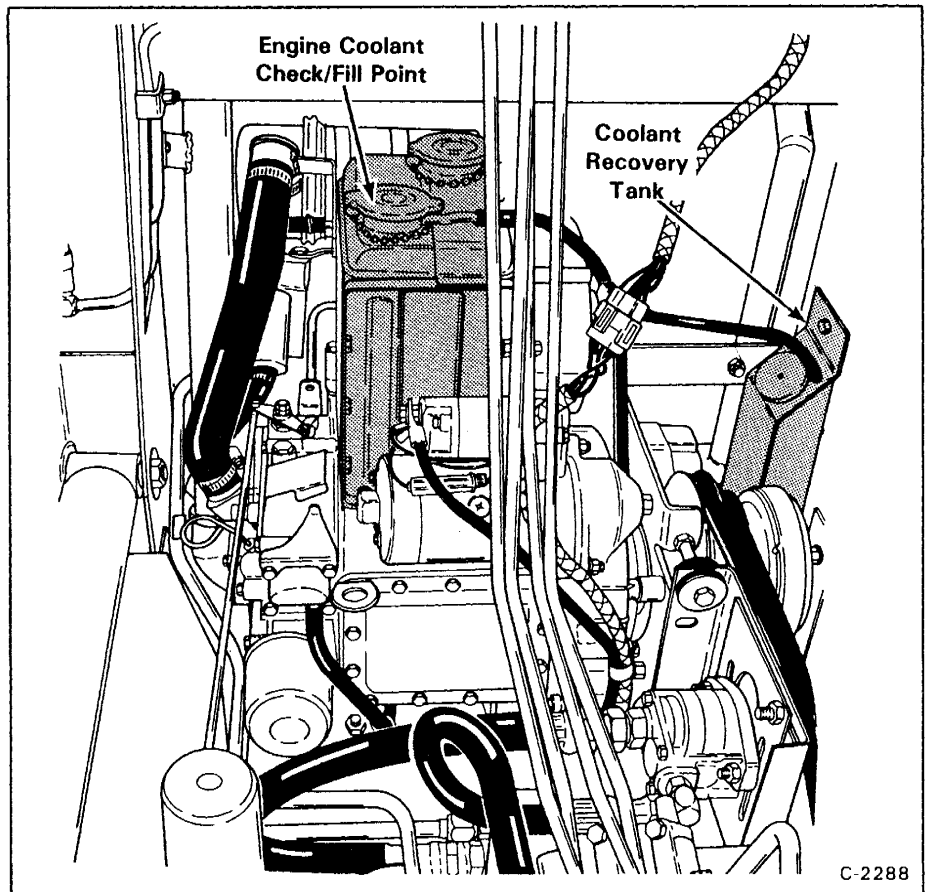

Fig. 1-11 Cooling System (313)
Check the coolant level in the coolant recovery tank (Fig. 1-11) and add clean coolant daily, as necessary, to prevent possible overheating of the engine.
- (3) Start the engine.
- (4) Hold a piece of wood over the exhaust outlet for 10 seconds. Stop the engine.
- (5) Install the plug.
- (6) Close the rear door.
\*Fig. 1-11 Spark Arrestor Muffler (310)
- (1) Remove the cover on the recovery tank (Fig. 1-11).
- (2) Fill to correct level of 1/3 full when engine is cold and 2/3 full when engine is hot.
- (3) Use coolant with anti-freeze added when there is a possibility of freezing temperatures.